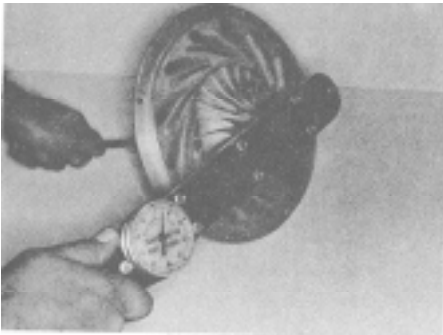

Fig. 10-33, T-437. Torquing self-locking nut on rotor shaft VT assembly
13. Install self-locking nut on rotor shaft. Place ST-1095 on torque wrench, hold nut with end wrench and turn shaft with torque wrench to 20 to 24 ft-lb [27 to 33 N•m] maximum torque. Fig. 10-33.